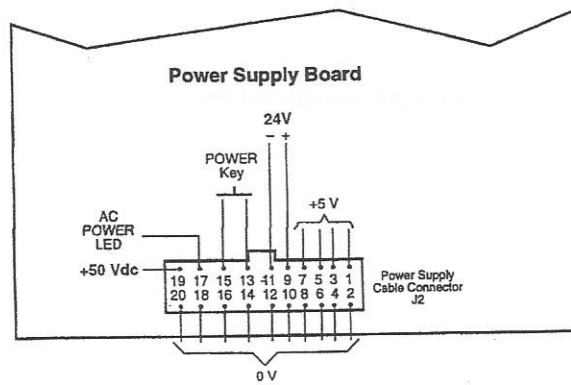

Figure 4-3. Power Supply Board Voltages
3. Measure the voltages shown in figure 4-3 on each J2 pin using small clip leads. If any voltage is $> \pm 10$ percent, replace the power supply board.